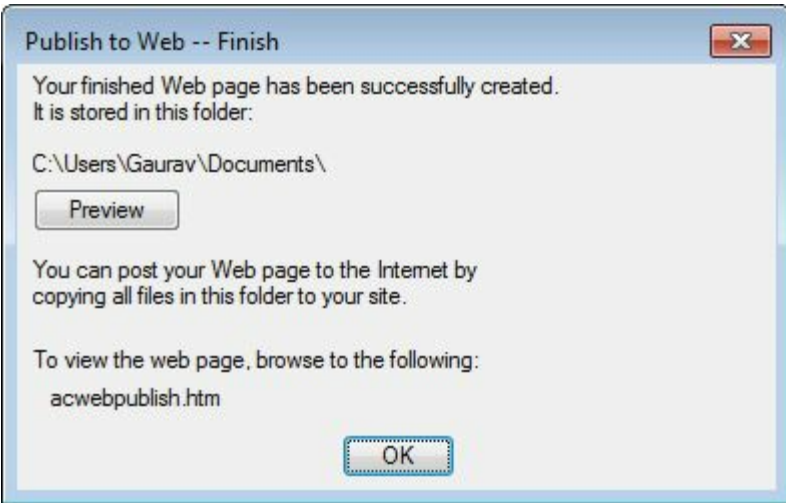

Figure-36. Publish to WEB dialog box Finish page
- Click on the **OK** button from the dialog box. After the publishing is finished, the **Finish** page of the **Publish to Web** dialog box will be displayed as shown in Figure-36.